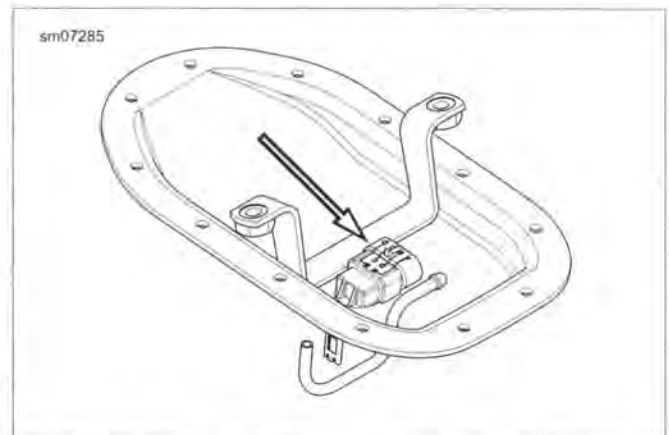

Figure 4-5. Fuel Pump Connector [141] (Typical)
- a. See Figure 4-5. Disconnect the fuel pump module connector from the tank plate.
5. See Figure 4-5. Disconnect fuel pump module connector [141].